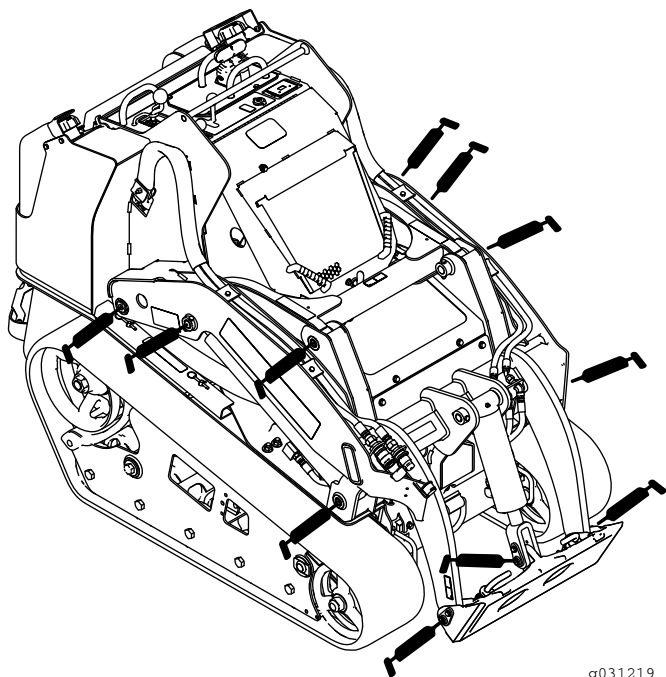
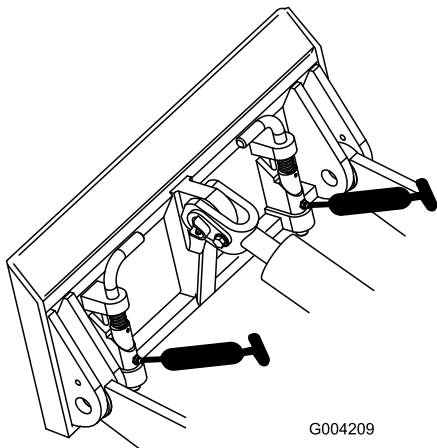
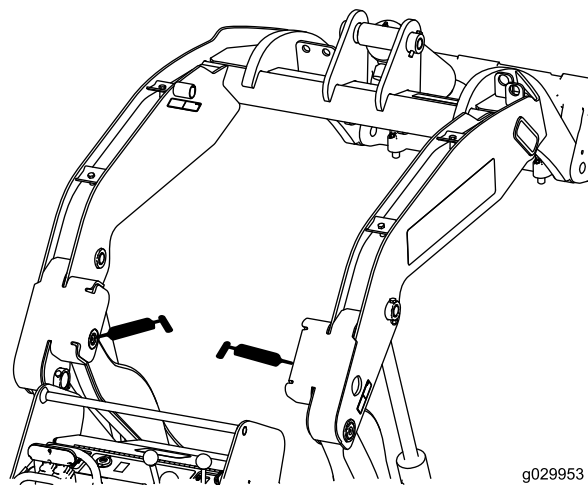

Figure 41
Figure 42
Figure 43
3. Connect a grease gun to each fitting (Figure 41, Figure 42, and Figure 43).
Note: Raise the loader arms before greasing the fittings in Figure 43.